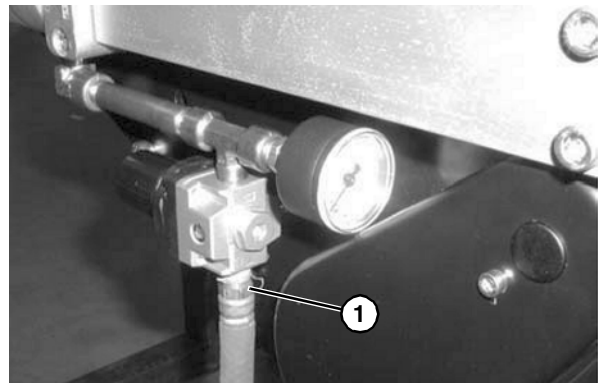

Figure 81
- Remove air supply and remove hose (Figure 81, item 1) from center drive.